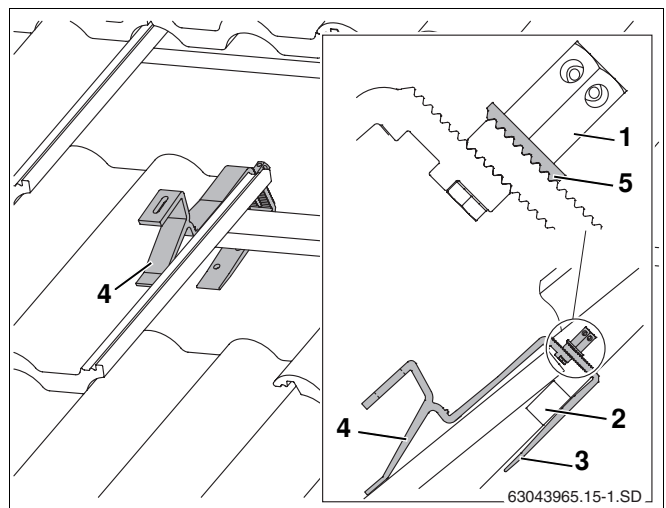

Fig. 13 Roof hook located in place (some tiles have been removed to show the example in more detail)
- Attach in the roof hook in such a way that the front brace lies in a tile trough (Fig. 13, **Item 4**).
- Push the lower part of roof hook (Fig. 13, **Item 3**) upwards until it touches the roof batten (Fig. 13, **Item 2**).
- Tighten the long hexagon nut (Fig. 13, **Item 1**). To do this, insert the size 5 Allen key into one of the holes in the hexagon nut and turn.
The serrated washer (Fig. 13, **Item 5**) must grip the teeth on the lower part of the roof hook.